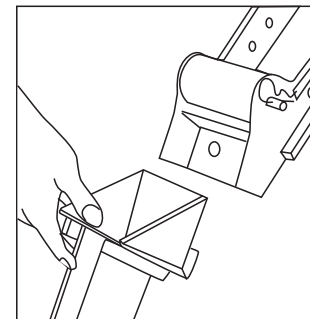

Fig 6
1. Remove 6-1/2 x 1/2" hitch pin on front extension (not the pin with the roller), swing front extension forward and install conduit adapter (size 2, 2-1/2, 3, 3-1/2 and 4 inch) (Fig 6).